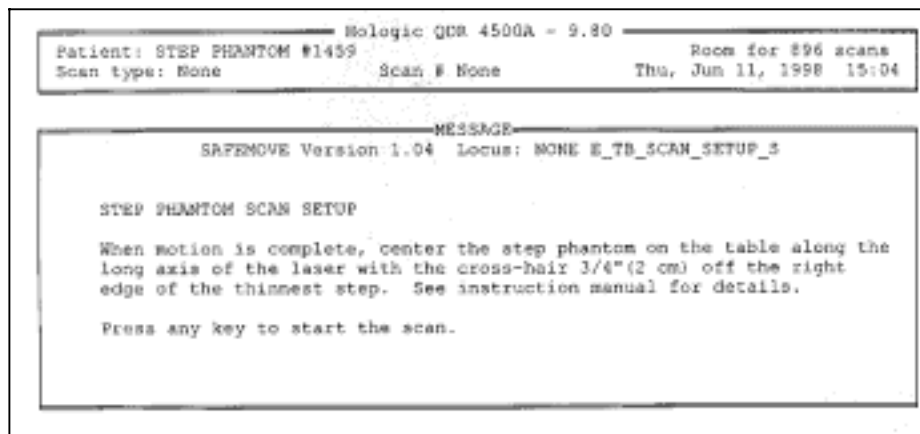

Figure 6-11. Step phantom QC setup screen
- At the 'QC Selections' menu choose 'Step Phantom Scan' and press 'Enter.' This will bring up the 'Step Phantom Scan Setup' screen. See Figure 6-11.